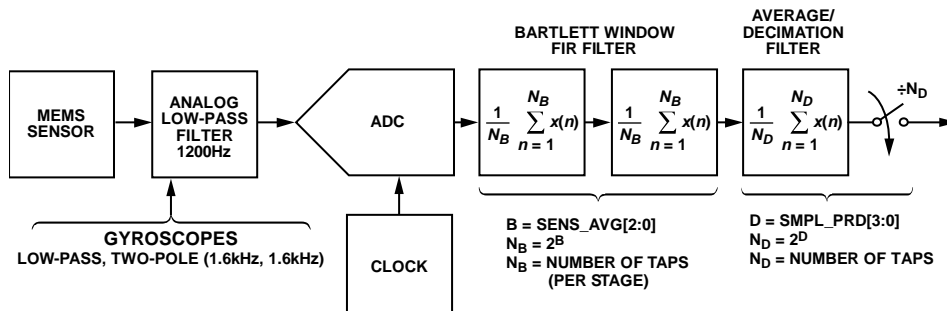

Figure 19. Signal Processing Diagram
The GYRO\_OUT2 register (see Table 10) captures the bit growth associated with the decimation filter (see Figure 19) using an MSB justified format. The bit growth starts with the MSB (GYRO\_OUT2[15]), is equal to the decimation rate setting in SMPL\_PRD[3:0] (see Table 17), and grows in the LSB direction as the decimation rate increases.
Figure 19 provides a signal processing diagram that describes all of the user-configurable options, which influence sample rate and the frequency response. Using the factory default settings for the SMPL\_PRD and SENS\_AVG registers, the effective sensor bandwidth is 360 Hz.
[3:0]	Decimation setting (D), see Figure 19
response (see Figure 19). For example, set SENS\_AVG[2:0] = 100 (DIN = 0xB804) to set each stage to 16 taps. When used with the default sample rate of 2429 SPS (no decimation), this reduces the bandwidth of the digital filter to approximately 49 Hz. The minimum setting for this filter is two taps per stage (SENS\_AVG[2:0] ≥ 001).